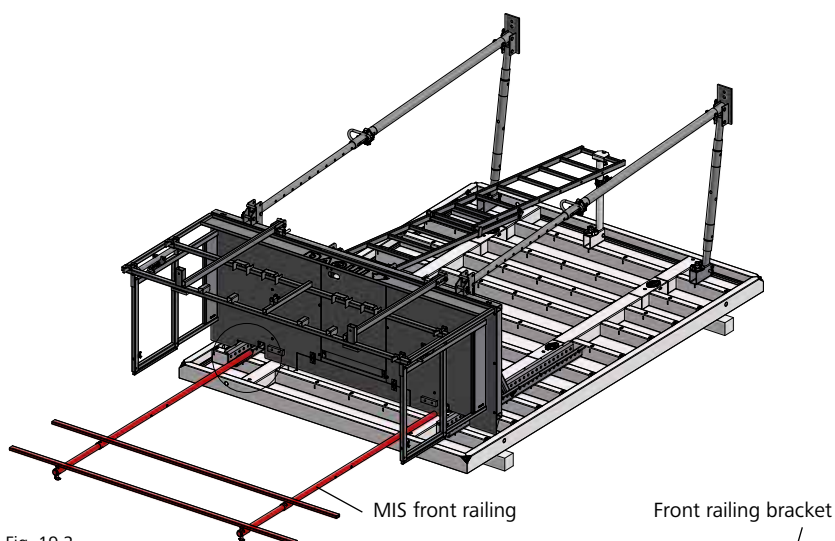

Fig. 19.2
20. Insert the MIS front railing into the front railing bracket in the cut-out in the platform floor next to the linkages (Figures 19.2 and 19.3).